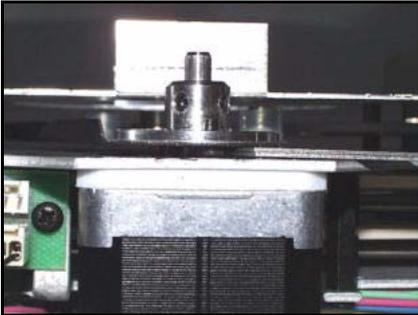

Fig. 56 Top blade spacing: 1.5 mm
- 5 Install a dimmer blade on the top motor with a 1.5 mm gap between the module plate and the inside (black) face of the blade (Fig. 56). Slightly tighten a set screw.